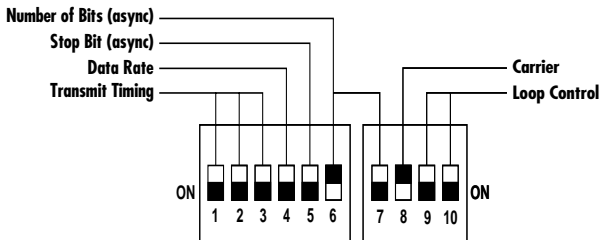

Figure 3-1. The internal DIP switches.
Each SFOM-HS2 has a three-position loop-activation switch on the front panel, plus ten internal DIP switches (see **Figure 3-1** below). Use these switches to configure the SFOM-HS2 prior to installation. (See **Chapter 4** for more about configuration options.)
- c. Use switches 5, 6, and 7 to set frequency allowance and character length (if necessary, refer to **Table 3-1** on **page 17**, **Figure 3-1** on **page 15**).
To activate loops from your DTE, DIP switches 9 and 10 must be set to **ENABLE** (see **Figure 3-1** on **page 15** and **Table 3-1** on **page 17**).